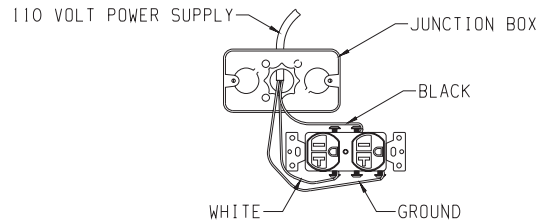

Figure 12
**Note:** Junction box is to be located in the lower compartment of the firebox and must be pre-wired at time of firebox installation for use with blower assembly. A standard ON/OFF wall switch or optional SCV1 Variable Speed Control Kit should be installed to activate power to the Junction Box and provide power for the operation of the FBB5 Blower assembly. It is recommended that installation of the wiring be performed by a qualified electrician. **See Figures 12 and 13.**
Attach black wire to one side of the receptacle and white wire to opposite side of receptacle. The ground wire should be attached to the green (ground) screw. **See Figure 12.**